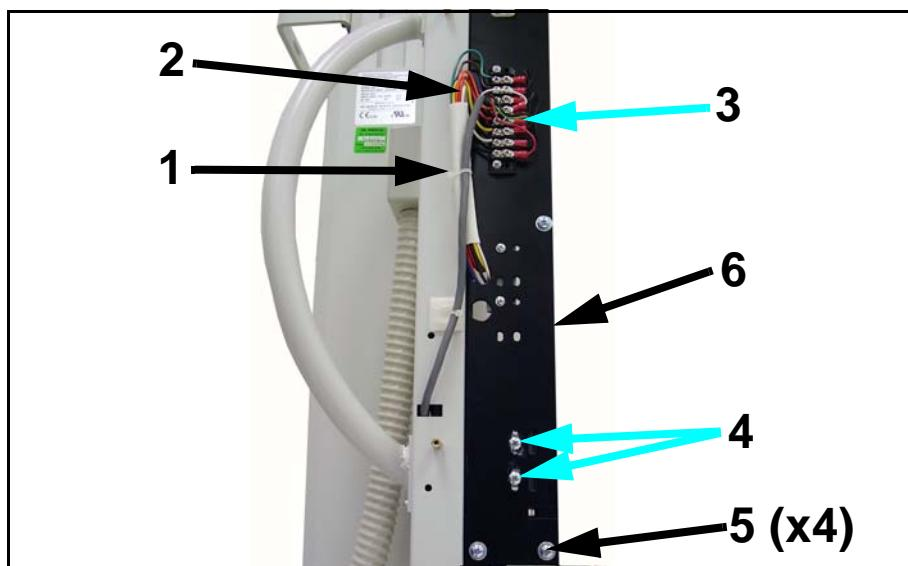

Figure 6-22. PBL Bracket Screws
- 7 Cut cable tie (1 in Figure 6-22).
- 8 Disconnect wires (2) from terminal (3).
- 9 Unscrew connector screws (4)
- 10 Unscrew four PBL bracket screws (5) and separate bracket (6) from cassette holder.